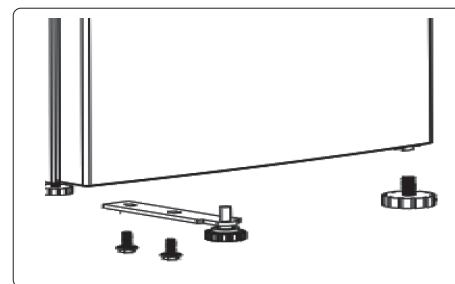

fig.7
- 8. Install the lower hinge on the left side of the cabinet. Install the adjustable foot at the right side (fig.7).